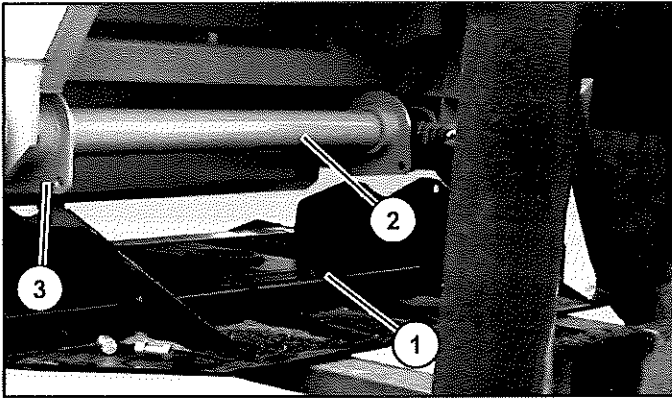

Figure 99
14. Remove the pivot plate (Item 1) from the shaft (Item 2) by removing the bolts from the tabs (Item 3) (Figure 99). Replace the pivot plate to the counter weight on the left (ditch side) of the conveyor.